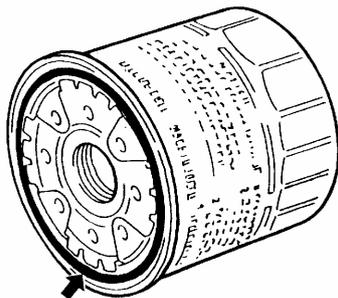

FIG. 5-23
2) As FIG. 5-23, tighten the new oil filter till “O” type ring contact the mounting surface by hands.